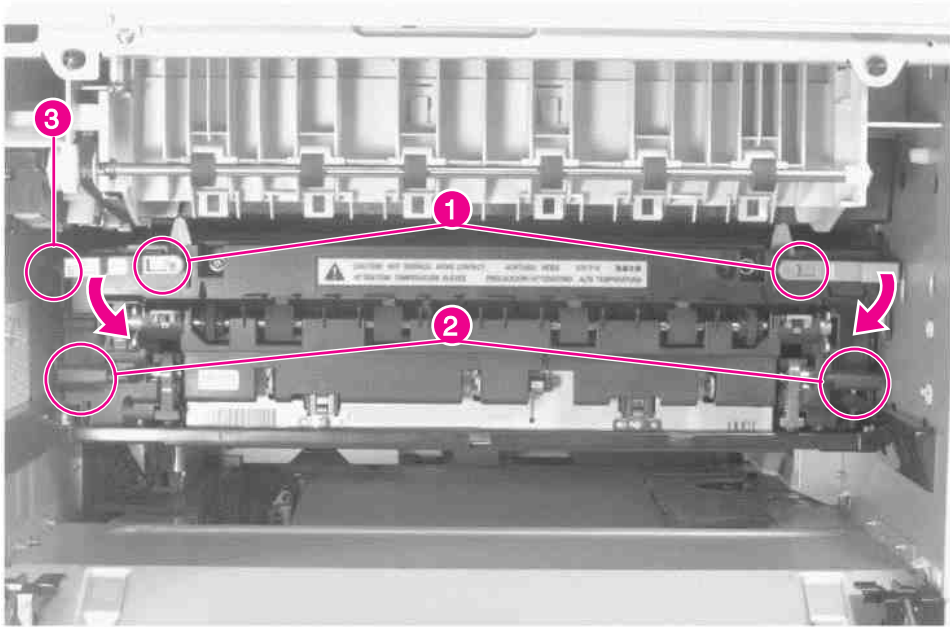

Figure 6-34 Fusing Assembly
- 2 To release the Fusing Assembly rotate the upper levers down (figure 6-34, callout 1).
- 3 To remove the Fusing Assembly lift up on the finger handles (figure 6-34, callout 2) while pulling outward.
- 1** Make sure that the Fuser Output sensor flag (figure 6-34, callout 3) on the upper left corner of the Fusing Assembly rotates freely.